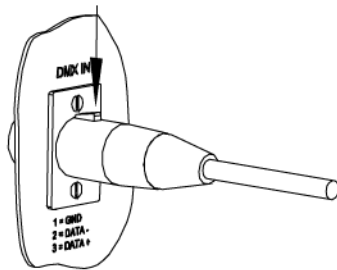
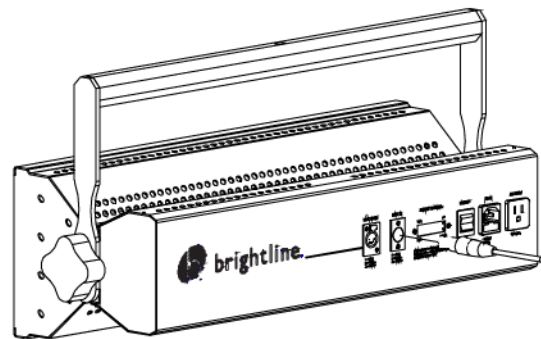

Figure 3
Figure 4
2. To disconnect the female end of cable, press down the release button on the plug (Figure 3) and pull the plug out of the receptacle (Figure 4). Pressure should be applied to the plug, not the cables.